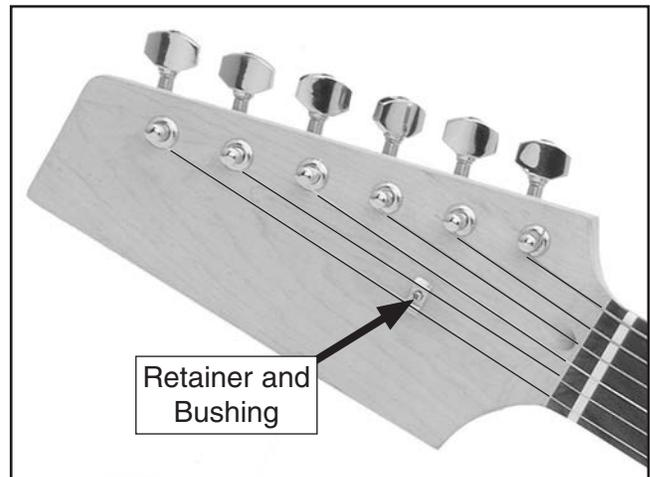

Figure 29. String retainer locations.
The string retainer mounts between the 1st and 2nd strings, as shown in **Figure 29**. String retainers are designed to hold the strings down against the nut to achieve correct tuning.
3. Slide a #2 x 3/8" screw through a retainer and small bushing, and fasten it to the back hole on the headstock (see **Figure 29**).